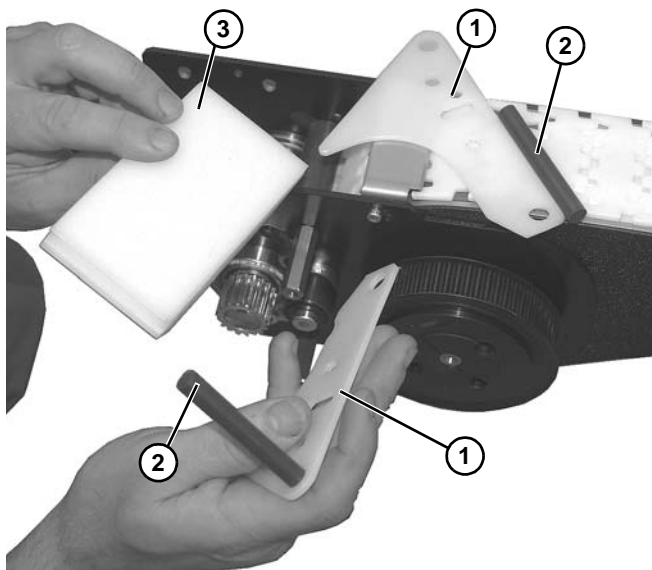

Figure 165
11. Disassemble side guide plates (Figure 165, item 1), wear rods (Figure 165, item 2), and wear bar (Figure 165, item 3). Replace worn components.